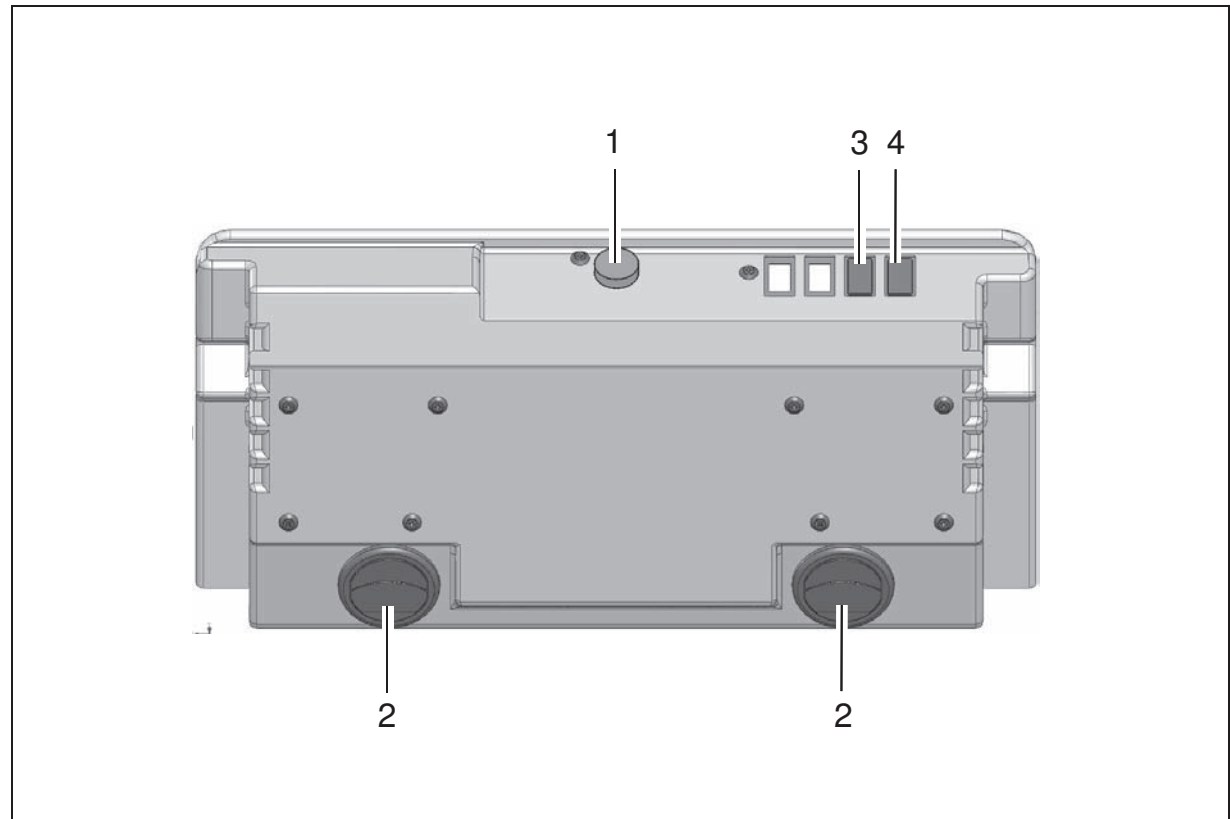

Fig.3
- The rotary valve (Fig. 3/1) is used to switch the heater on and off as well as to control the heating power.
- The air vents (Fig. 3/2) serves as outlets for the hot or cold air. To clear condensation or ice from the windscreen, divert the air flow to the front windscreen.
- The switch (Fig. 3/3) serves to switch the fan on and off and to set the fan speed.
- The switch (Fig. 3/4) is used to switch the windscreen wipers on and off.